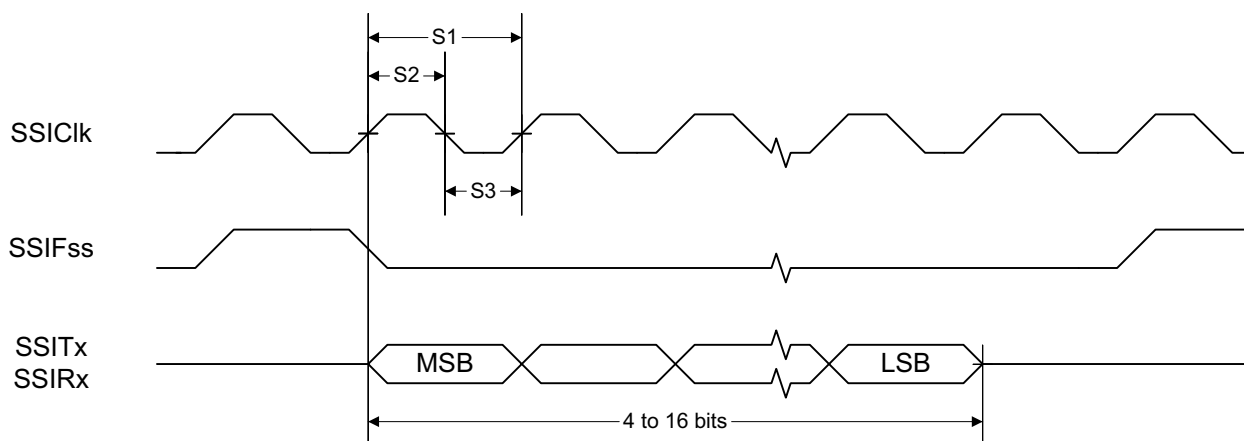
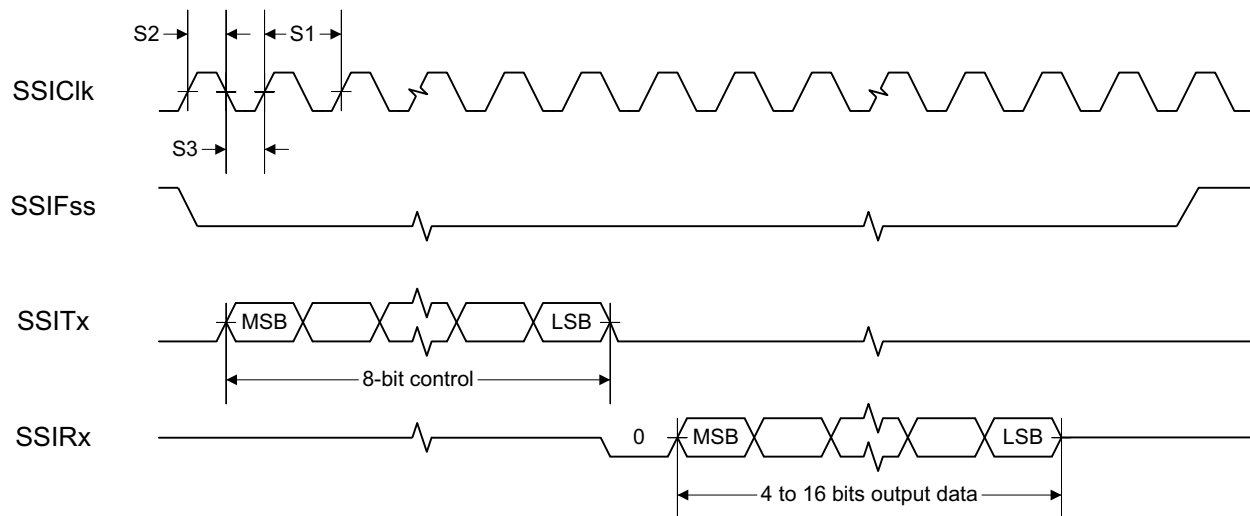
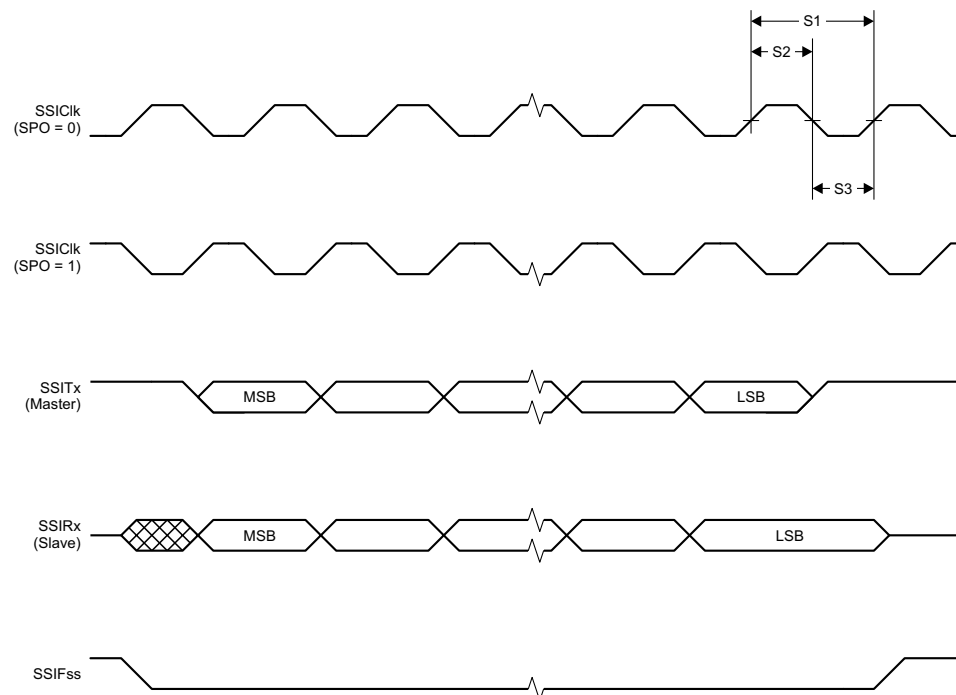

图 7-1. SSI Timing for TI Frame Format (FRF = 01), Single Transfer Timing Measurement
图 7-2. SSI Timing for MICROWIRE Frame Format (FRF = 10), Single Transfer
图 7-3. SSI Timing for SPI Frame Format (FRF = 00), With SPH = 1
- (1) Refer to SSI timing diagrams 图 7-1, 图 7-2 and 图 7-3.
- (2) When using the TI-provided Power driver, the SSI system clock is always 48 MHz.